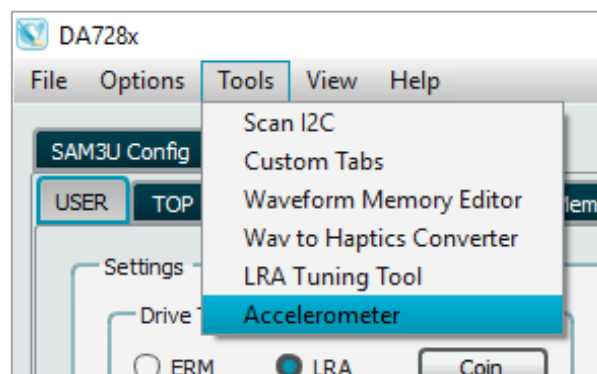

Figure 68. Digital accelerometer
4. In the DA728x GUI, select **Tools > Accelerometer** as shown in Figure 68.